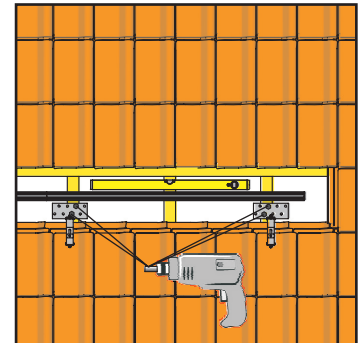

Fig. 3-7 Attach the roof brackets to the rafters with at least two screws
- Fix each on-roof tie (EKSFIXAD, EKSFIXADP) to the rafters with at least two of the woodscrews provided (Fig 3-7), using a \varnothing 6 mm drill to produce a pilot hole.